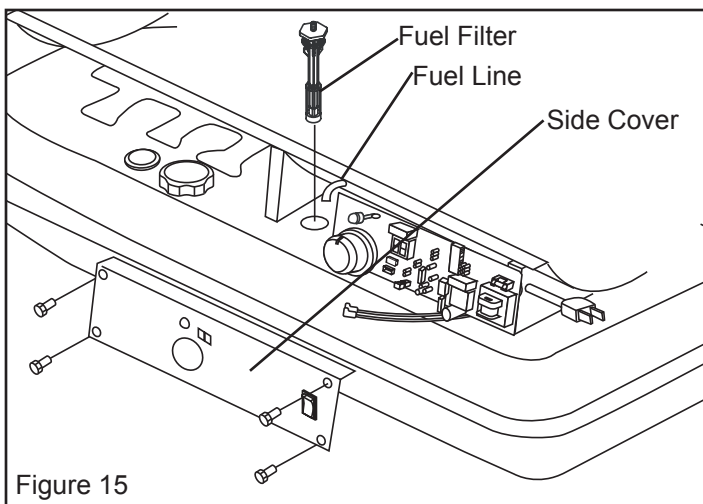

Figure 15
**NOTE:** To remove the filter from models 45 / HK070F turn filter 90° clockwise. To remove the filter from models 125 / 175 / HK215FW turn filter 90° counter-clockwise. See Figure 15.